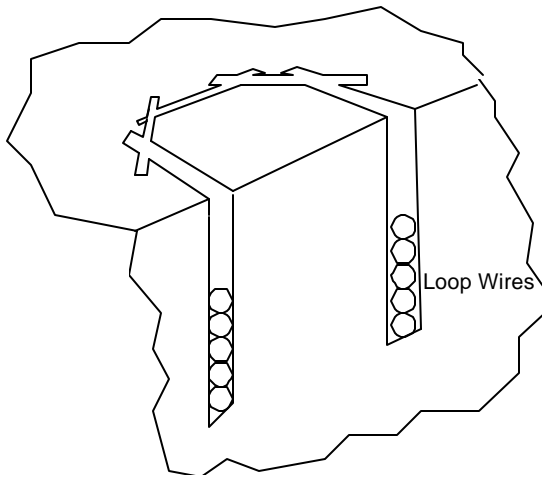

Figure 2 Saw Cut Detail
| Figure 2 Saw Cut Detail | 6 |
You will need a special concrete saw with a blade that cuts a 3/16-inch wide groove. Such saws are available for rent in most larger cities. Set the saw for a 1-1/2-inch cut depth. Make all cuts overlap as shown in figure 2. Proceed as follows:
- a. Cut the four rectangle sides. Do not connect the rectangle corners as shown in figure 2.